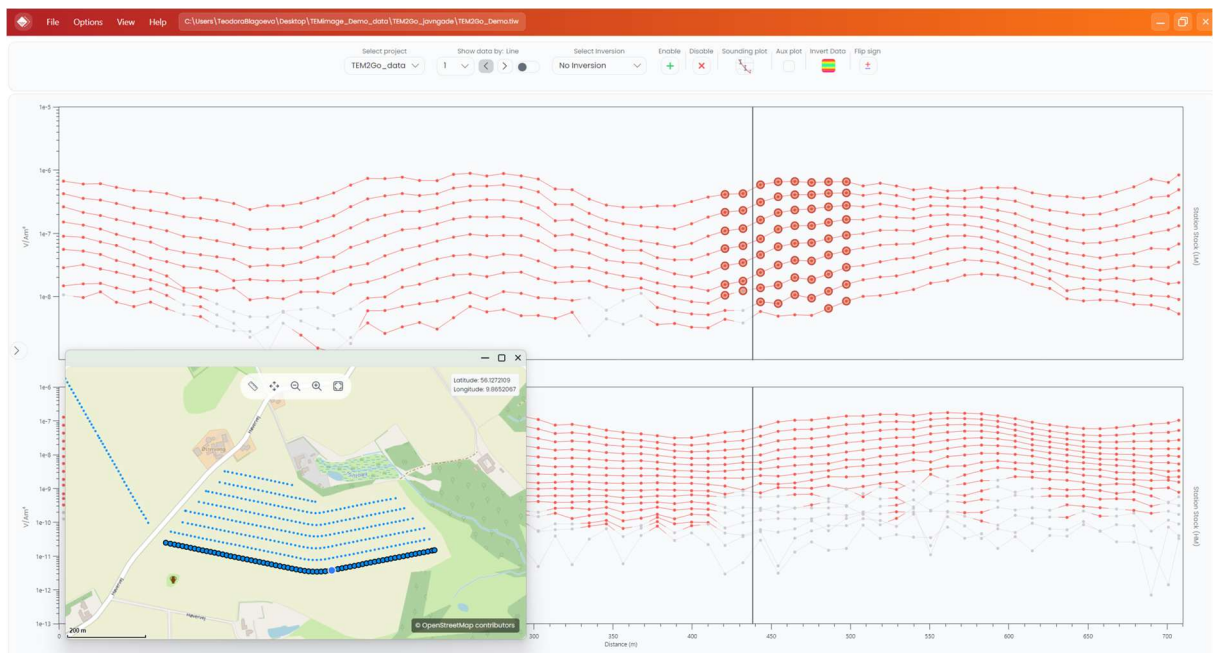

Figure 7: Example of the main window with the Navigation Panel collapsed and the Map Panel undocked.
1. Select **File > Import to Database** from the menu bar Figure 7.